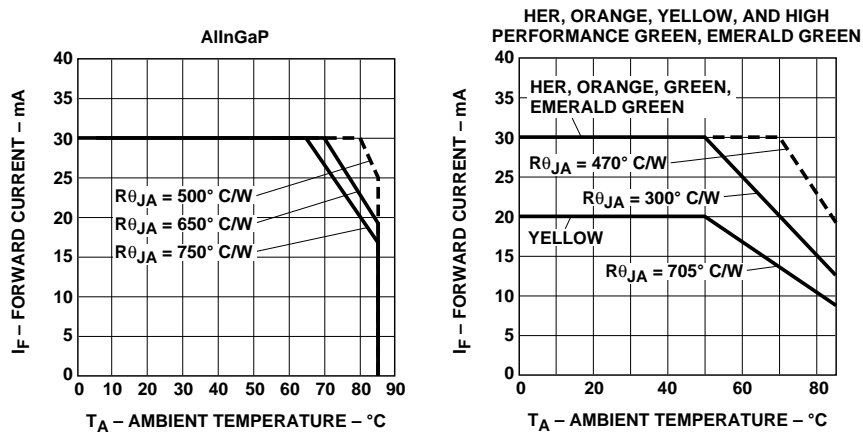

Figure 4. Maximum Forward DC Current vs. Ambient Temperature.
1. See Figure 4 for maximum current derating vs. ambient temperature.